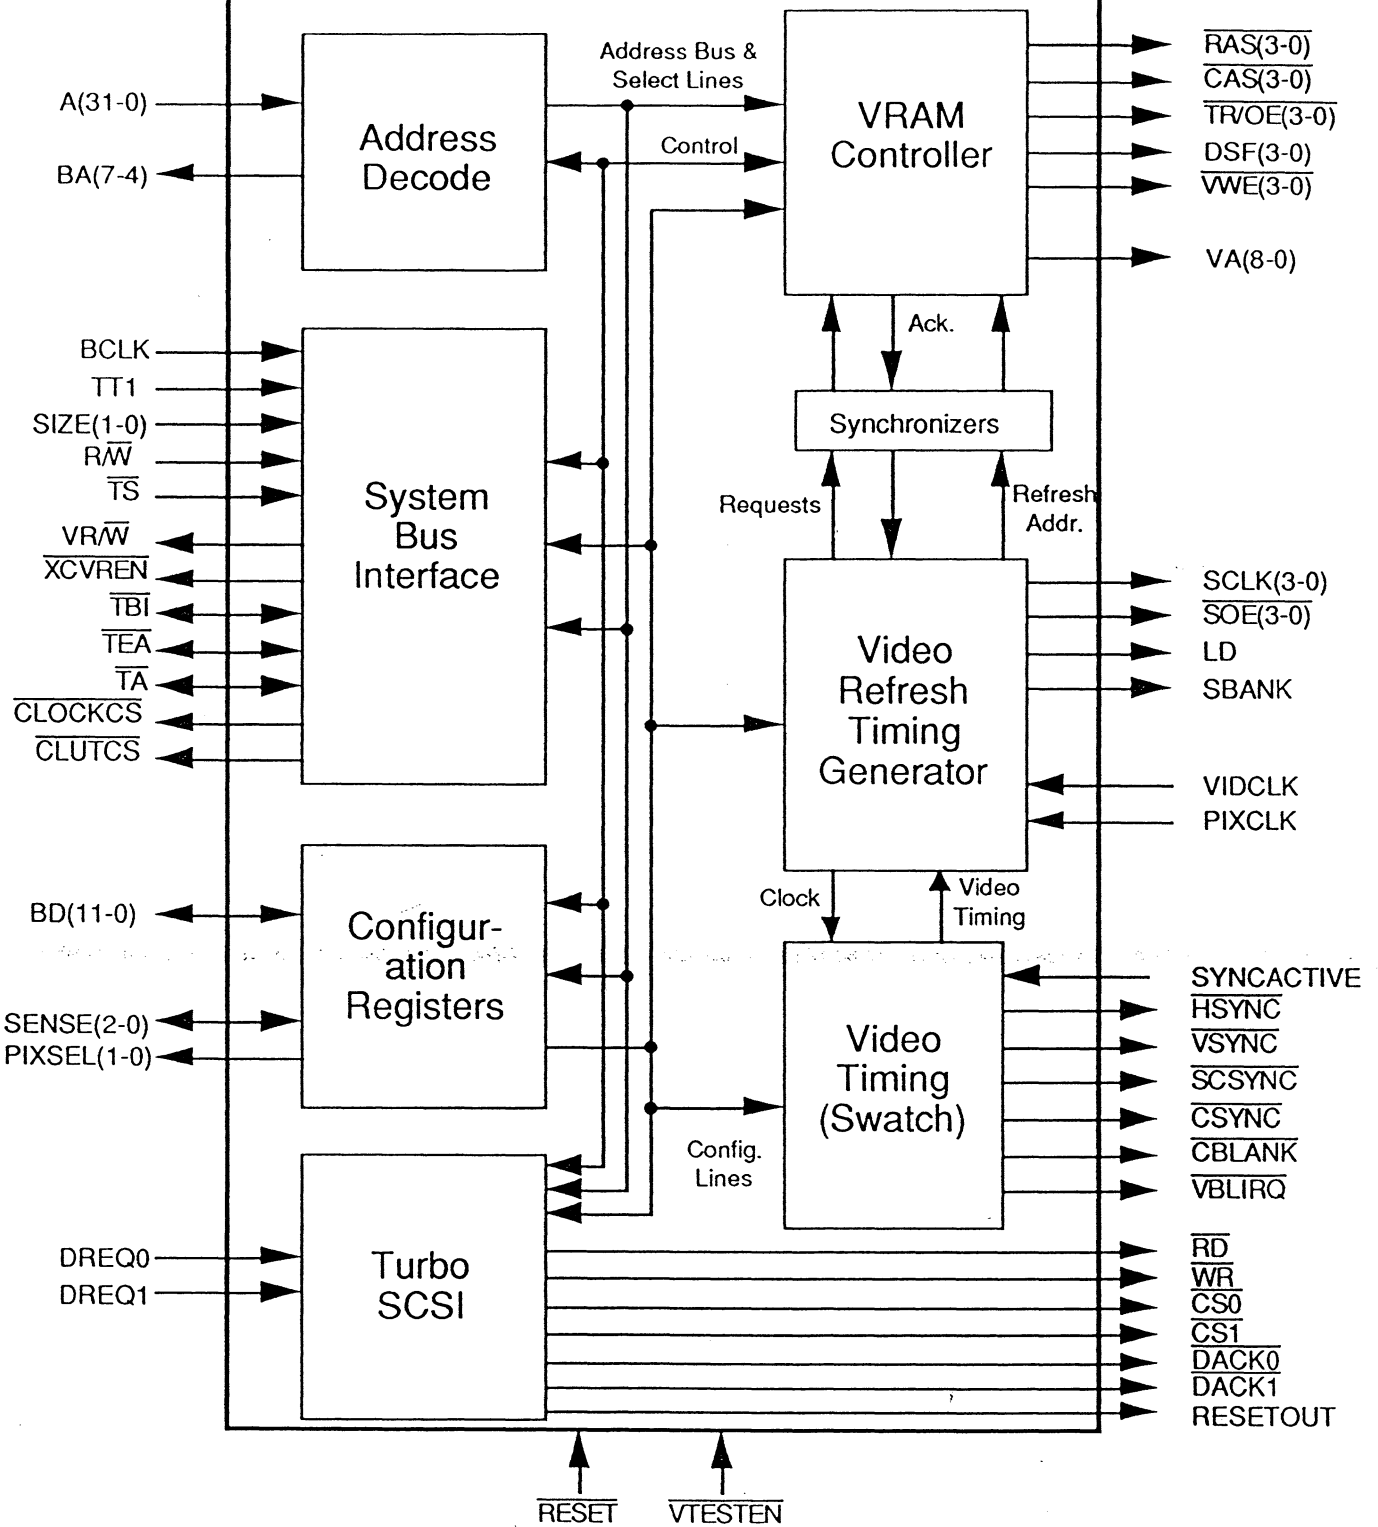

FIGURE 2. BLOCK DIAGRAM
3.2.6 BLOCK DIAGRAM: Per Figure 2.